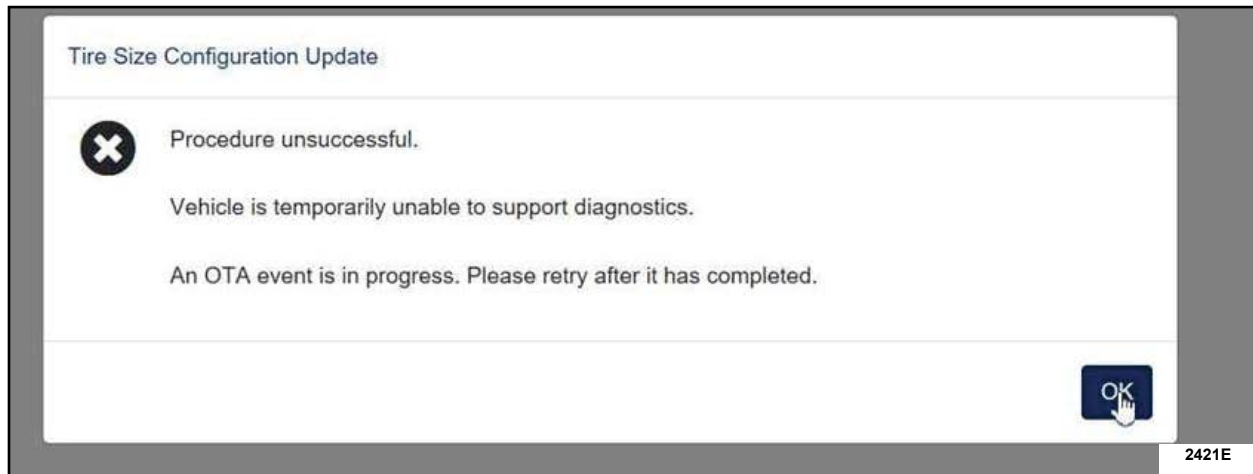

FIGURE 6
26. Was a procedure unsuccessful screen shown? See Figure 6.